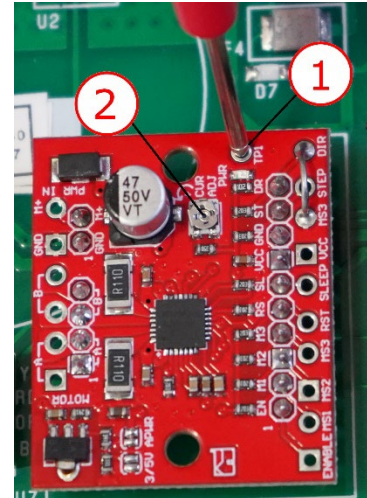

Figure 3-10. Stepper Driver Adjustment
- ❖ Check stepper motor driver setting (see Figure 3-10):
- With the system powered on, check the voltage from GND to the point TP1 (1) on the stepper motor driver.
- Use a small screwdriver to rotate the CUR ADJ potentiometer (2) – note that the adjustment is very sensitive. Bring the voltage at TP1 to between 0.8 VDC and 0.7 VDC. Turning the CUR ADJ potentiometer clockwise decreases the voltage at TP1. Counterclockwise increases the voltage at TP1.